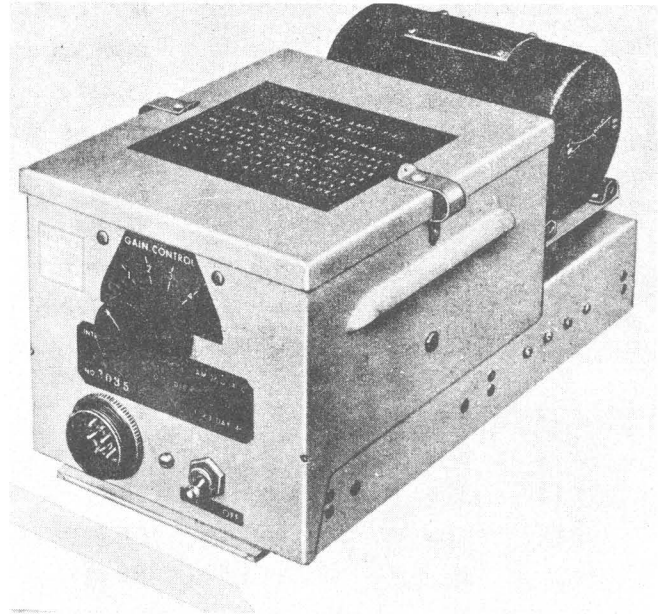

Figure 1-3. Interphone Amplifier AM-26A/AIC—Exterior Front Diagonal View
b. INTERPHONE AMPLIFIER AM-26A/AIC.—Interphone Amplifier AM-26A/AIC is the same as Interphone Amplifier AM-26/AIC except that it includes Automatic Gain Control C-158/AIC mounted inside the tube compartment on the back end of the housing. (See fig. 1-3.)